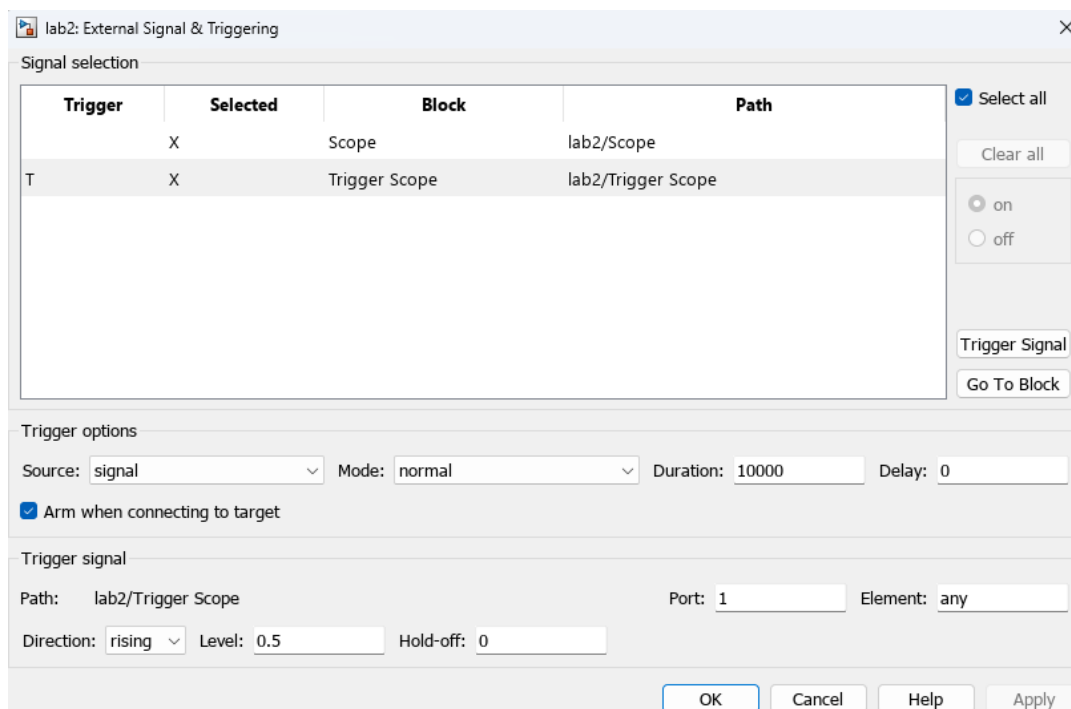

Figure 11: Configuring the Trigger Signal
7. In the TRIGGER area make sure that SOURCE = SIGNAL, MODE = NORMAL, DELAY = 0, and set DURATION =  $T_f/T_s$ . The duration is the number of samples allotted in memory for each signal being logged. If we have a simulation time of  $T_f = 10$  seconds and our sampling time  $T_s = 0.001$ , then  $10/0.001 = 10,000$  samples. If you actually run the model longer than  $T_f$ , then the data in memory will be overwritten when  $T_f/T_s$  samples have passed. Check Figure 11.